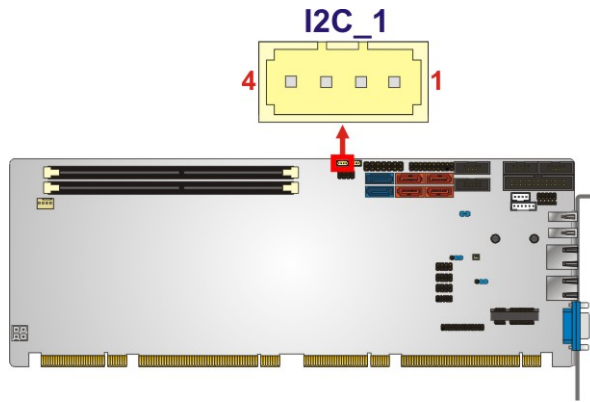

Figure 3-10: I²C Connector Location
- CN Location:** See **Figure 3-10**